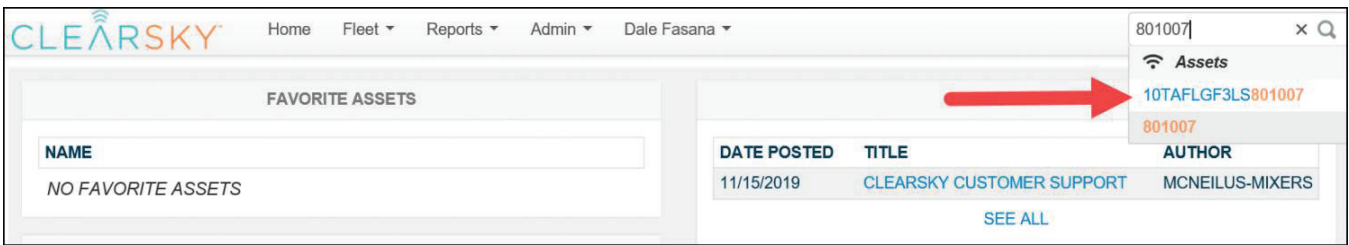

Figure 32
- 66. Make sure the truck's serial number appears in the search results Assets window and select the truck from the search results. See Figure 32.